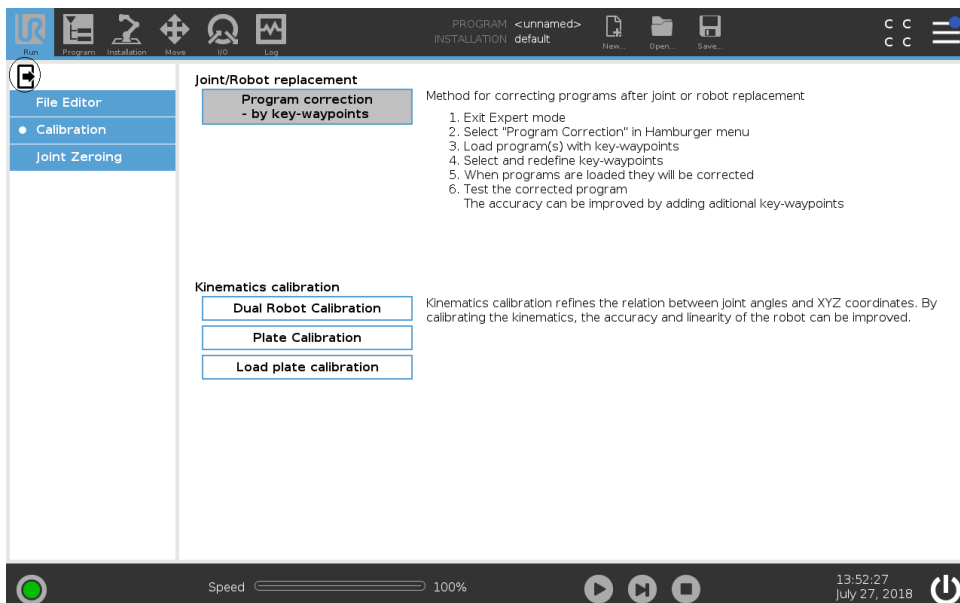

Figure 3.2: Exit button is under the Run Tab
- (3) In the Side Menu on the left, select **Calibration** and tap **Program correction by key-waypoints**.
- (4) Tap the exit button to exit Expert Mode, (see Figure 3.2)